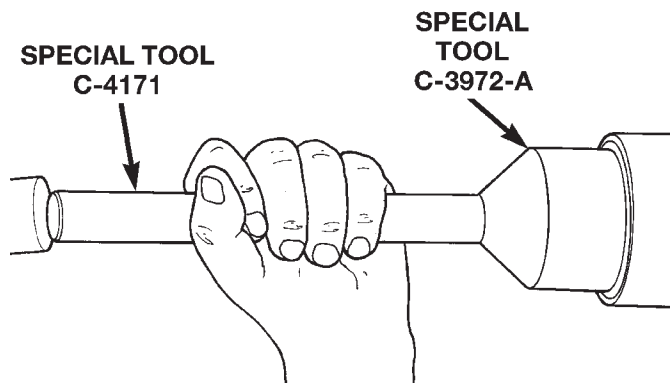

Fig. 12 Pinion Seal Installation
- (1) Apply a light coating of gear lubricant on the lip of pinion seal. Install seal with Installer C-3972-A and Handle C-4171 (Fig. 12).